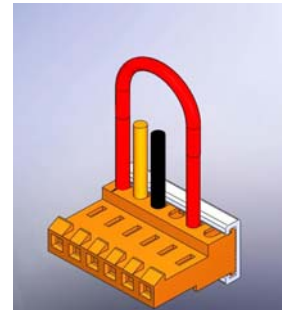

Figure 1: Connector.
- 5**  Install the connector onto the back of the gauge (angled portion on end of connector pointing up as in Figure 1), and then secure the gauge in its mounting location. If drilling a mounting hole in a panel to mount this gauge, the hole size should be 2.040”. Mounting Kit R19999 is available for larger mounting holes up to 2.200”.